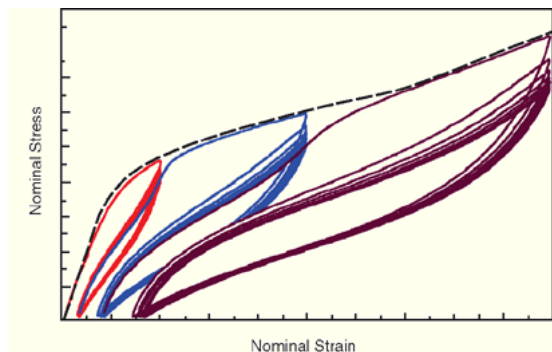

Figure 1: Typical cyclic loading behavior of a filled elastomer
Figure 1 shows the typical experimental behavior of a filled elastomer when cyclically loaded between a given strain level and zero stress. Three distinct strain levels are shown (red, blue and purple curves) along with the primary loading path shown by the dashed line:
- **Primary** refers to the primary loading curve, extracted by the plug-in and schematically shown as the dashed line in Figure 1.